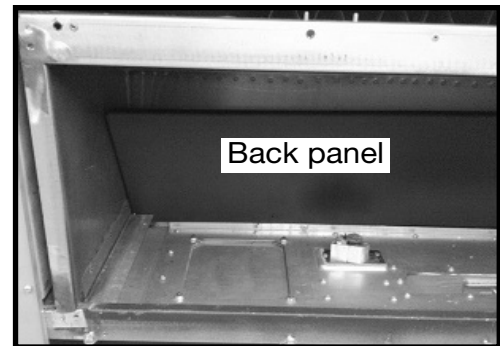

Figure 41: Back panel.
1. Insert back panel (1) so that it is sitting on ledge at the back of the firebox as shown in Figure 41.